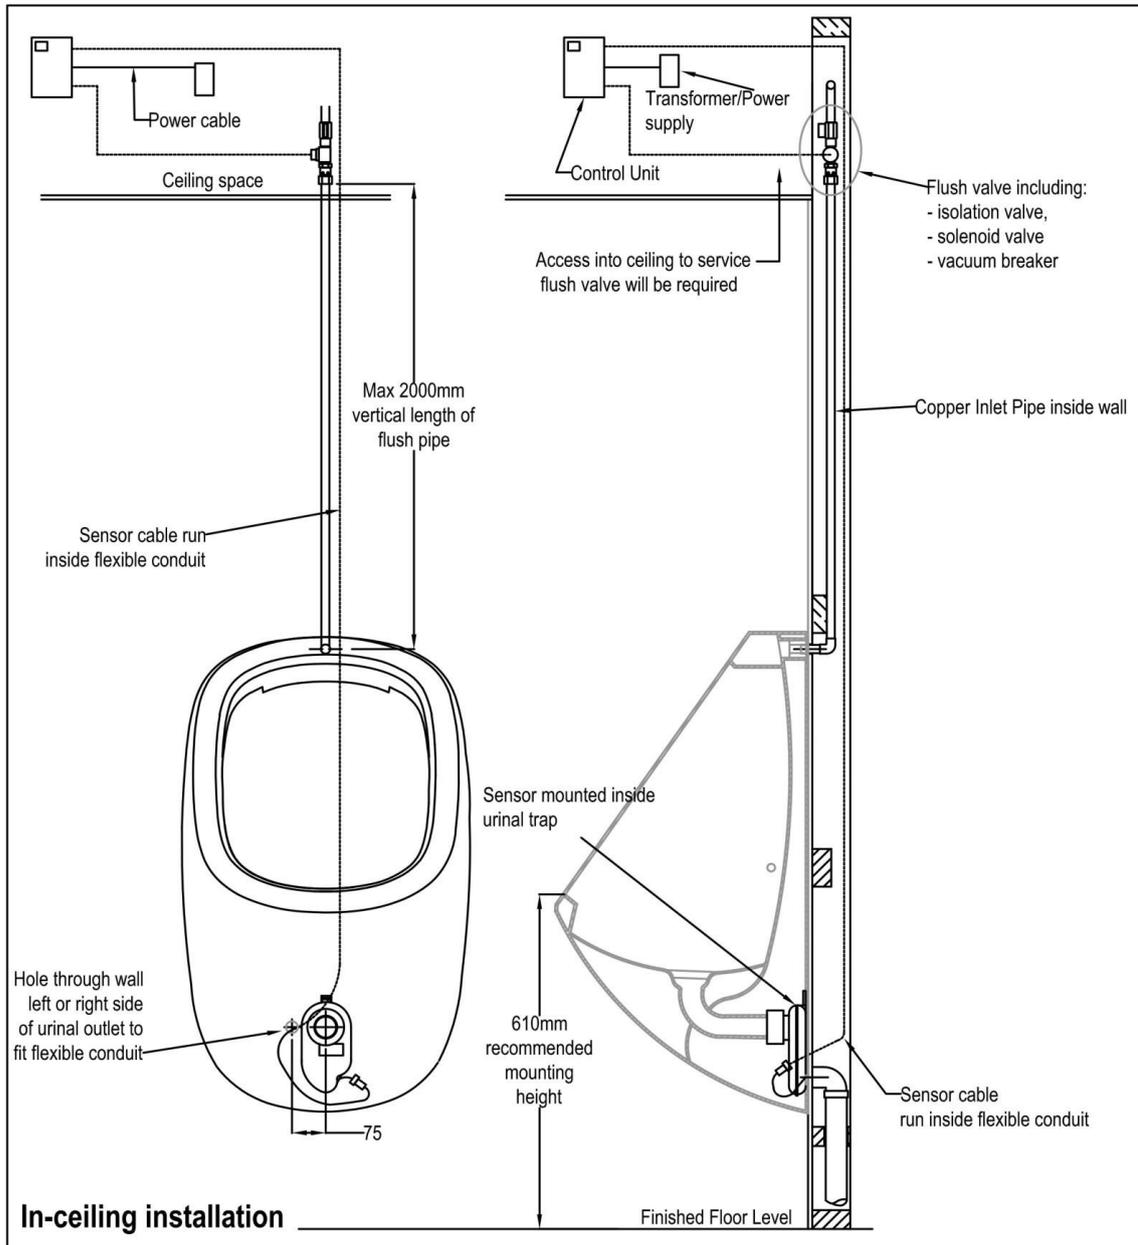

Fig. 11
- Fig. 11 In-ceiling installation